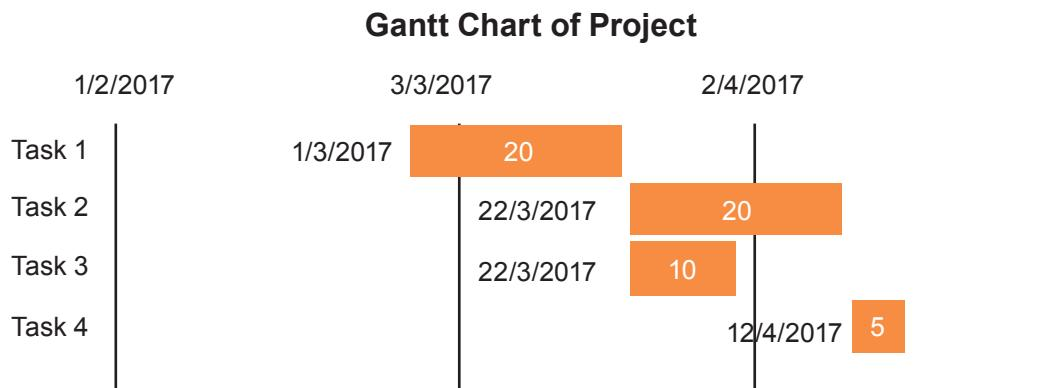

Figure 15.12 Generating a basic Gantt chart
Step 2: Use the chart function in the software to generate a horizontal bar chart as shown in Figure 15.12 from the information you have keyed in. You can refer to the manual or online help function of the software to find out how to convert your values into a chart.